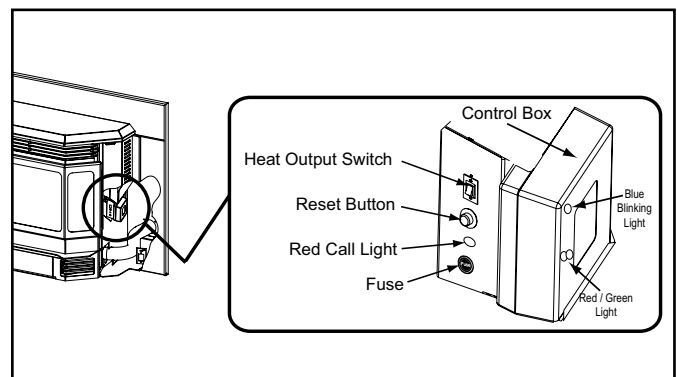

Figure 24.1
The appliance is like most modern furnaces; when the thermostat calls for heat, your appliance will automatically light and deliver heat. When the room is up to temperature and the thermostat is satisfied, the red call light will shut off and the appliance will shut down. **Figure 24.1.**
3. Locate the heat output control switch on the right side behind the right side panel. Set to the HIGH setting and then adjust the thermostat to its highest setting. The red call light will be on which is located on the right side behind the right side panel. This indicates the thermostat is calling for heat. **See Figure 24.1 on page 24.**